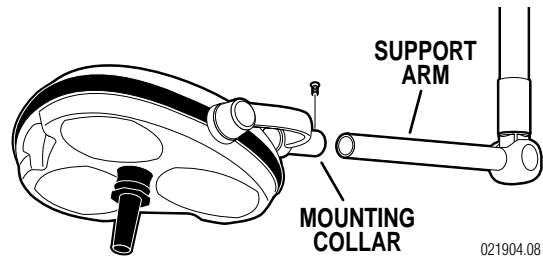

Figure 6. Lighthouse Installation
b. Remove the four (4) screws from the lighthouse mounting stub.
c. Install the lighthouse mounting stub into the support arm and secure with the screws previously removed. See figure 6.